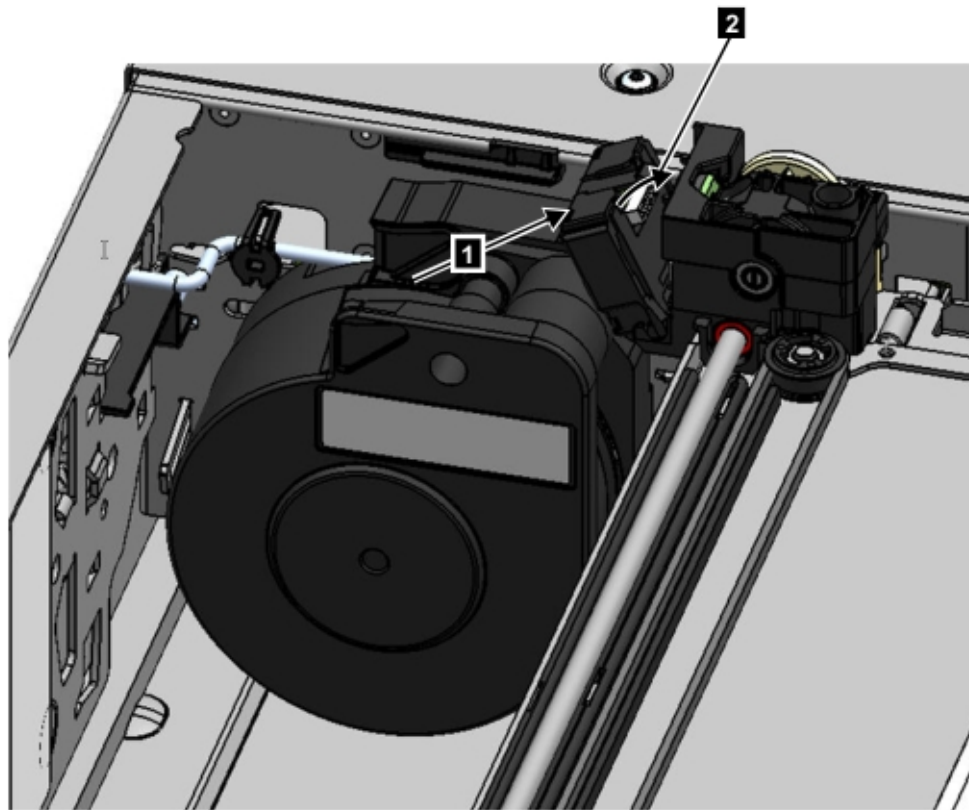

Figure 77. Installing the spooling cable
5. Place the spooling cable into the grooves where it attaches to the accessor and rotate it until it snaps into place. See Figure 77 on page 140.